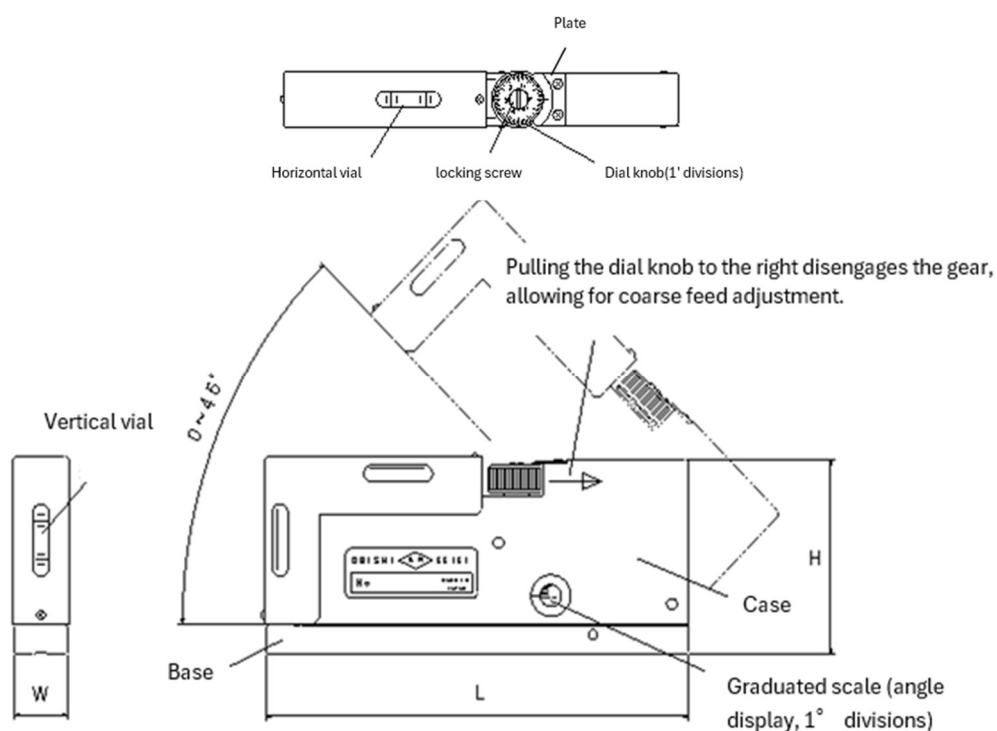

Figure 1
- ② Slowly turn the dial knob to set the desired angle (one full rotation moves 1°).
- ③ To quickly change to any desired angle, pull the dial knob to the right as shown in Fig. 1, open the upper section while keeping the base on the workpiece, and set the angle using the graduations on the scale plate as a reference. When you release your finger, the dial knob will automatically return to its original position.